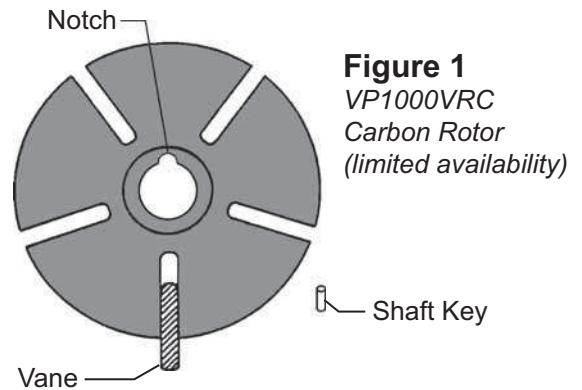

Figure 1
4. Carefully turn the rotor assembly by hand until the shaft key notch is at the 12 o'clock position. (See Figure 1)